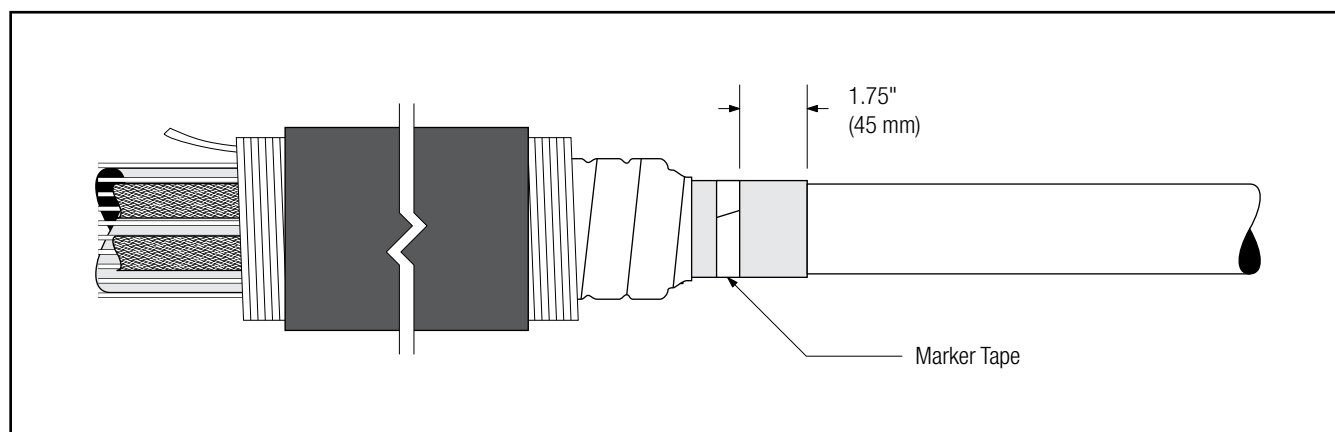

Figure 21
6.2 Place a marker tape on the cable semi-con located 1.75" (45 mm) from the end of the semi-con. (*Figure 21*)